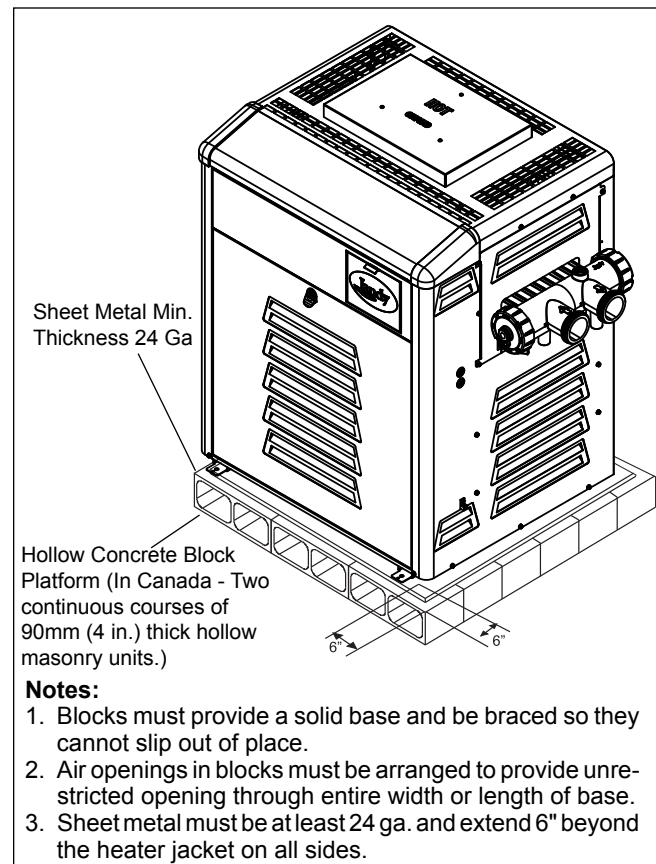

Figure 2. Noncombustible Platform
As an alternative to the Jandy noncombustible base plate, in the United States, the National Fuel Gas Code (NFPA 54 / ANSI Z223.1), and in Canada, the Natural Gas and Propane Installation Code (CAN/CSA-B149.1), allow a heater to be placed on a combustible surface when there is a platform under the heater made of hollow masonry no less than four (4) inches (102 millimeters [mm]) thick, covered with sheet metal at least 24 gauge thick and extending beyond the full width and depth of the heater by at least six (6) inches (153 mm) in all directions. The masonry must be laid with ends unsealed, and joints matched to provide free circulation of air from side to side through the masonry, see Figure 2. If the heater